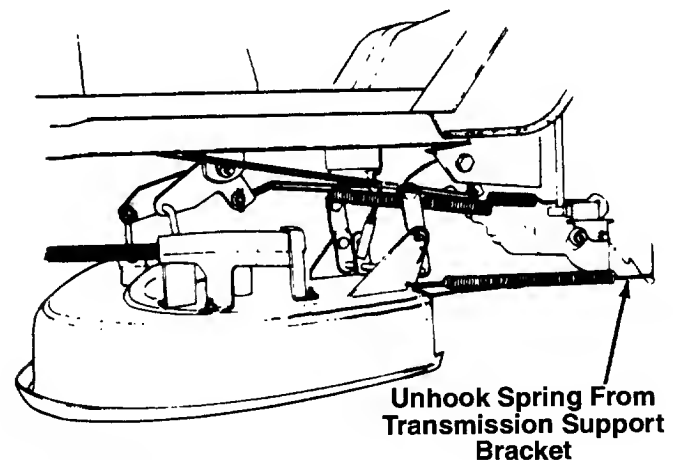

FIGURE 16.
5. Disconnect the spring from the left rear transmission support bracket. See figure 16.